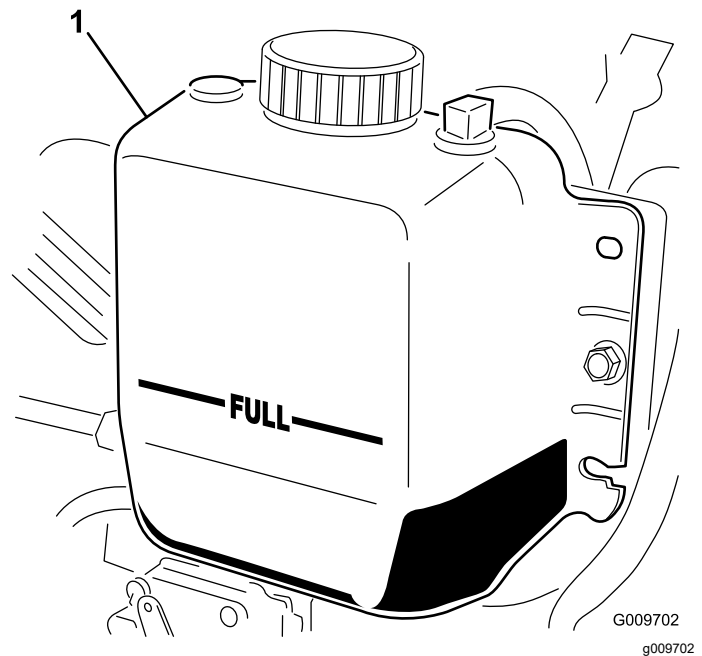

Figure 71
2. Check the coolant level in the radiator. The radiator should be filled to the top of the filler neck and the expansion tank filled to the FULL mark (Figure 71).